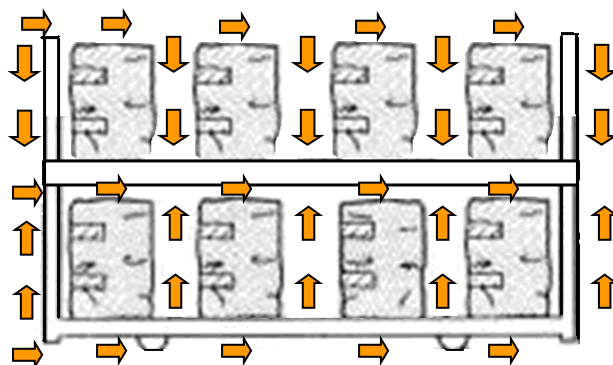

Figure 58
- B. Be sure there will be enough space between each wrap for better air flow as shown in Figure 58.